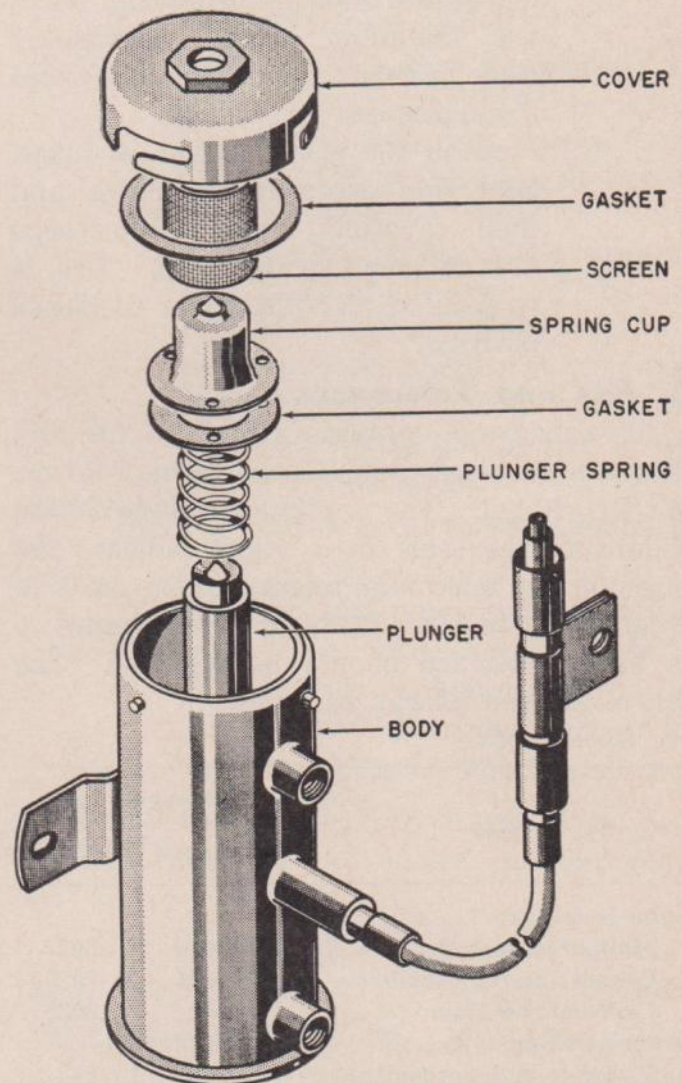

Figure 36. Heater fuel pump, exploded view. TM 976-36
k. *Heater Fuel Pump* (fig. 36). After the heater fuel pump has been removed (par. 53n(3)), proceed as follows: